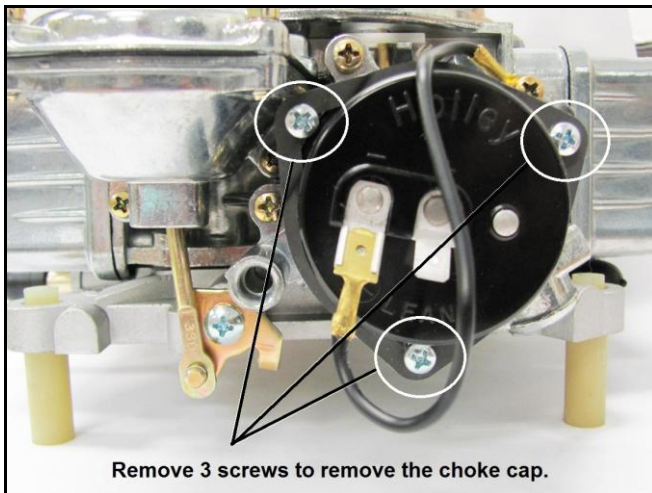

Figure 1
2. On carburetors with an automatic choke, remove the 3 screws that hold the choke cap (**Figure 1**). Next, remove the 3 screws that hold the choke housing to the carburetor and the “C” clip (**Figure 2**). Move the housing to the side.